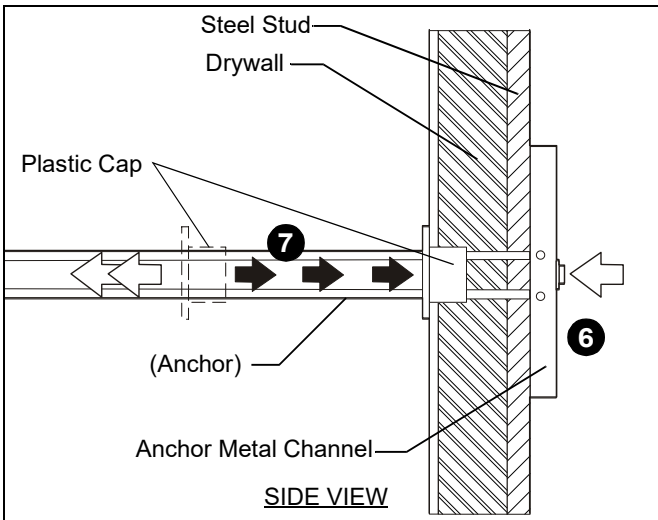

Figure 5
6. Holding plastic straps on anchor, pull anchor away from wall until channel rests flush behind wall making sure anchor channel is positioned vertically on stud. (See Figure 5)
7. Slide plastic cap on anchor towards wall until flange of cap is flush with wall. (See Figure 5)